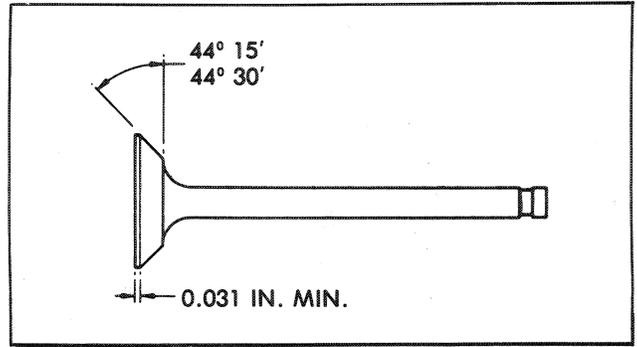

Figure 14
1. Inspect the valve face and, if pitted replace or reface by grinding to the dimensions shown in Figure 14.